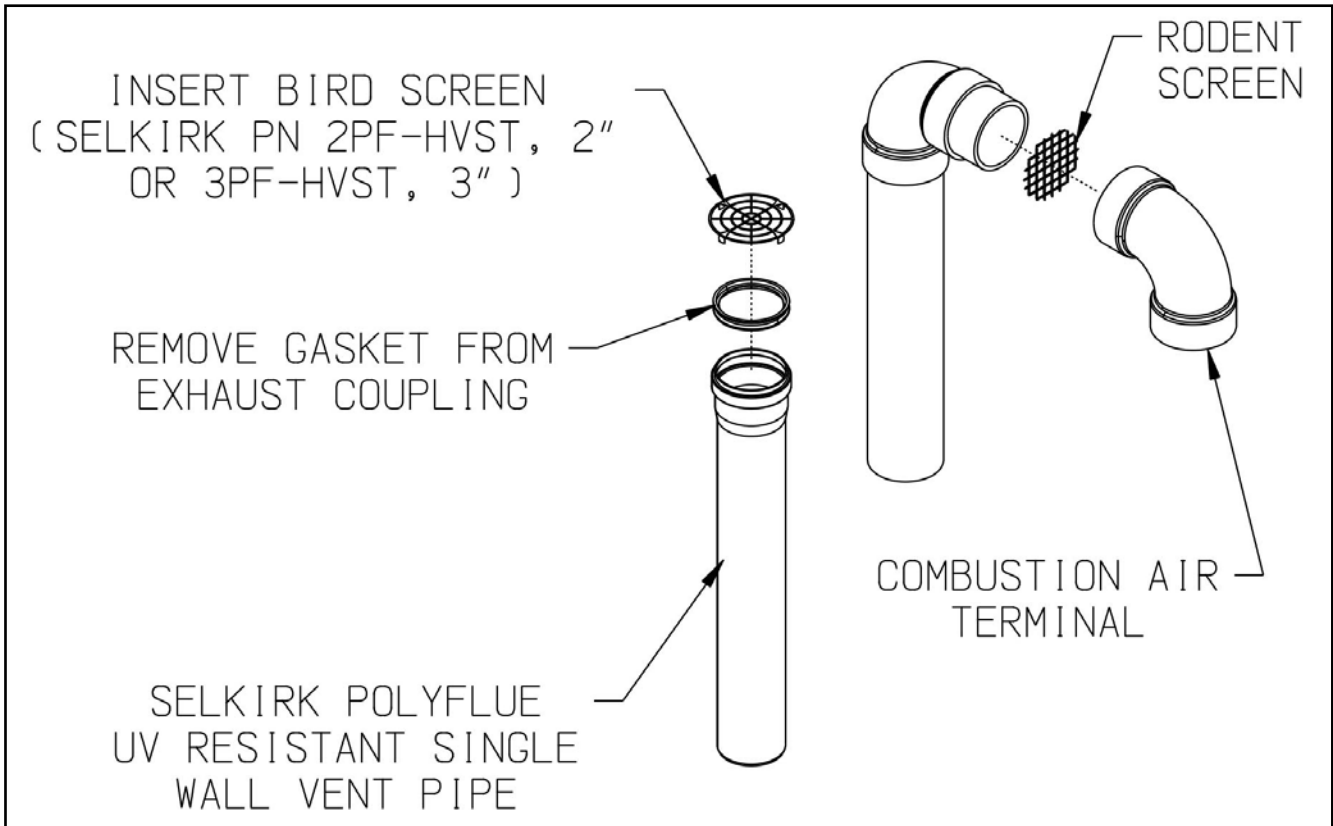

Figure 7.43: Installation of Selkirk Polyflue UV Resistant Single Wall Vertical Terminal
- a. See Figure 7.43 for the proper orientation of twin pipe vertical terminals.
- c. A 180° bend (or two 90° elbows) are installed on the top of the air intake pipe. If two 90° elbows are used, the rodent screen provided can be installed between them (Figure 7.43). If a 180° bend is used, install the rodent screen in the open side of the bend, using a ring made of PVC pipe. If desired, the termination fittings can be attached to the end of the intake pipes with field supplied stainless steel screws so that they can be later removed for cleaning and inspection. If this is done, drill a clearance hole in these fittings and a tap hole in the end of the intake pipes to accept these screws.